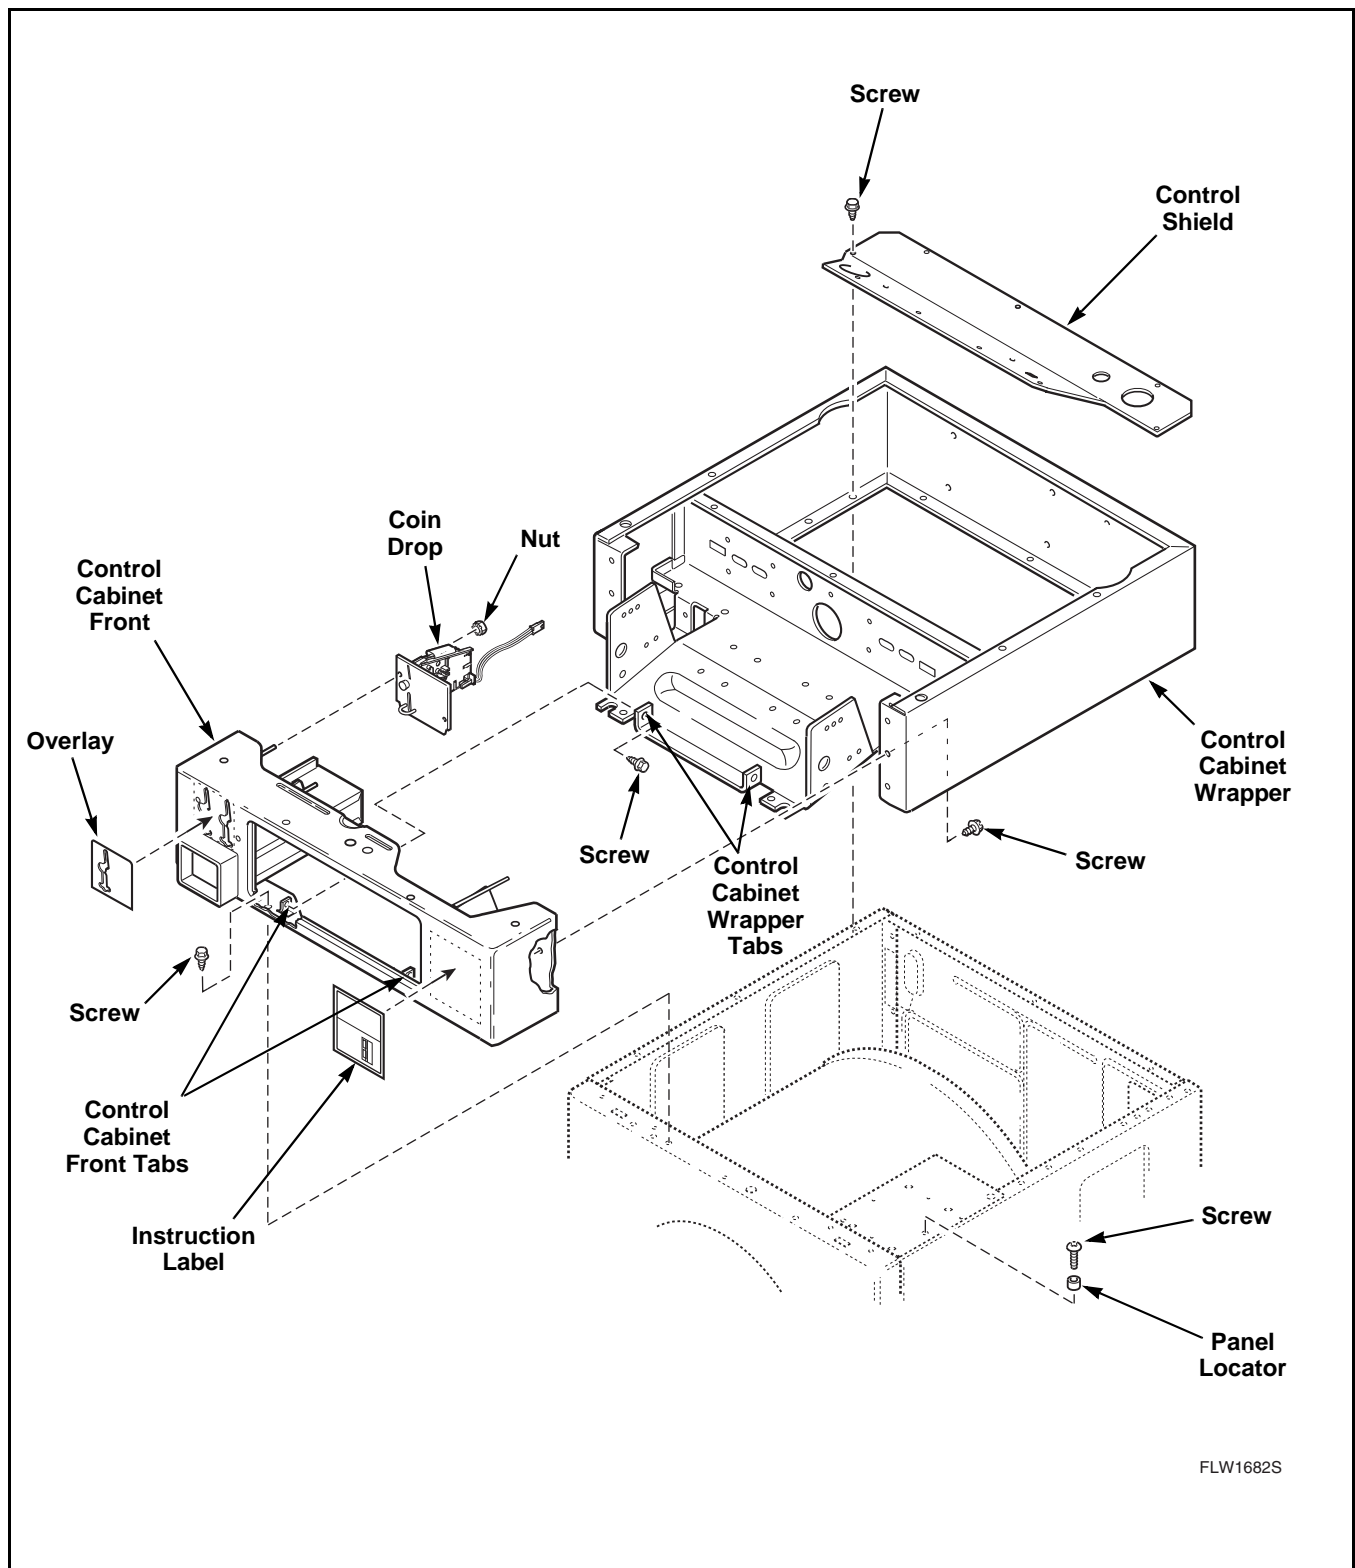

Figure 32
- f. Remove two screws holding bottom front flange of control cabinet front to top flange of washer front panel. Refer to *Figure 32*.
- g. Remove three screws (per side) holding control cabinet front to front flange of control cabinet wrapper. Refer to *Figure 32*.
- h. Remove two screws holding control cabinet wrapper tabs to control cabinet front tabs. Refer to *Figure 32*.
- i. Carefully pull control cabinet front straight out and away from control cabinet wrapper. Refer to *Figure 32*.